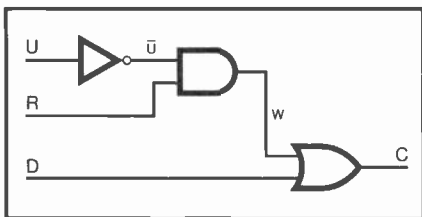

Fig.4.4. Circuit to decide if we should change our clothes using information on Dirt, Rainfall and Umbrella use.
For example, if we have three inputs indicating if we have dirty clothes (D), if it is raining (R), and if we are using an umbrella (U) we can build a logic circuit which indicates if we need to change clothes (C), see Fig. 4.4.